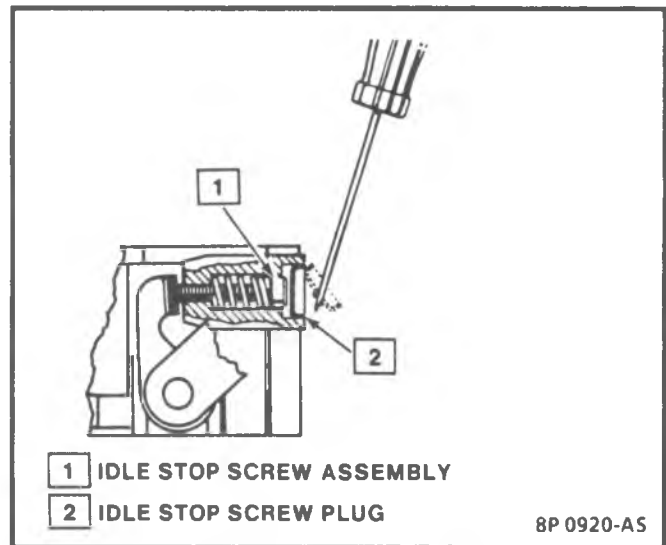

Figure 4-22 - Removing Stop Screw Plug 7.4L
13. If present, remove stop screw plug by piercing it with an awl, then applying leverage (see Figure 4-22). The screw is covered to discourage unauthorized adjustments.
**Figures 4-22 to 4-26**